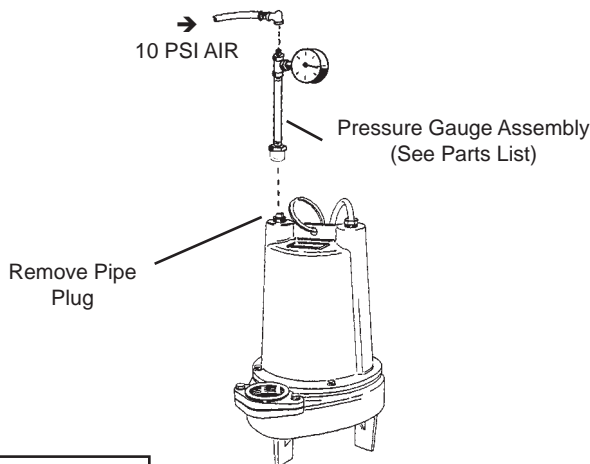

FIGURE 4
Before checking the pump for leaks around the shaft seal, square rings, and cord inlet, the oil level should be full as described in section F-1.3. Remove pipe plug (41) from motor housing (11). Apply pipe sealant to pressure gauge assembly and tighten into hole (see Fig. 4). Pressurize motor housing to 10 P.S.I. Use a soap solution around the sealed areas and inspect joints for "air bubbles".